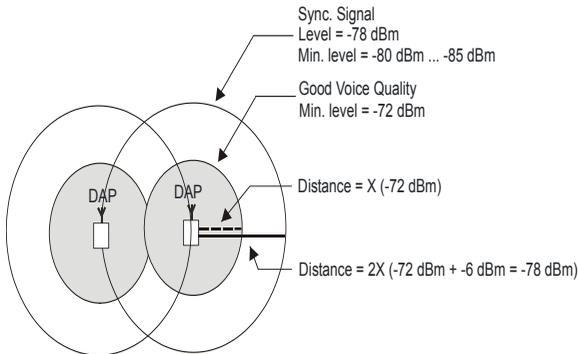

Figure 2-14 Signal Strength considerations.
- In open area, the distance is doubled if the received signal strength is 6 dB lower. This means that at a minimum signal strength for good voice quality of -72 dBm and a distance "X", the signal strength at the double distance (2X) is -78 dBm. See Figure 2-14 "Signal Strength considerations."